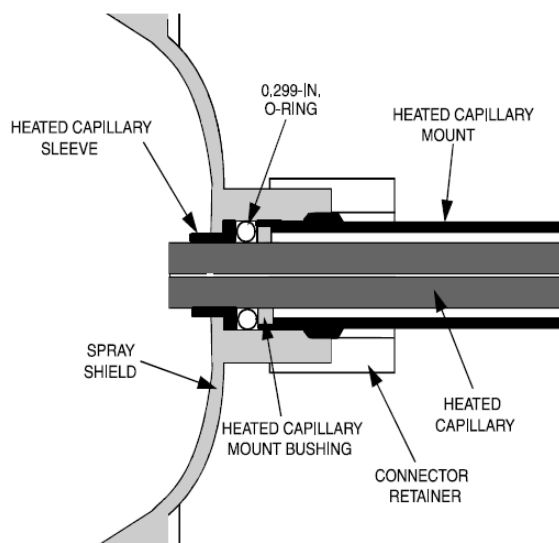

Figure 9. Cross sectional view of the entrance end of the API stack.
- 8.2.4.6. Screw and hand-tighten the heated capillary mount into the spray shield. (The heated capillary mount bushing should seat in the end of the heated capillary mount and apply a force that compresses the 0.299-in. ID O-ring against the heated capillary sleeve. See Figure 9.